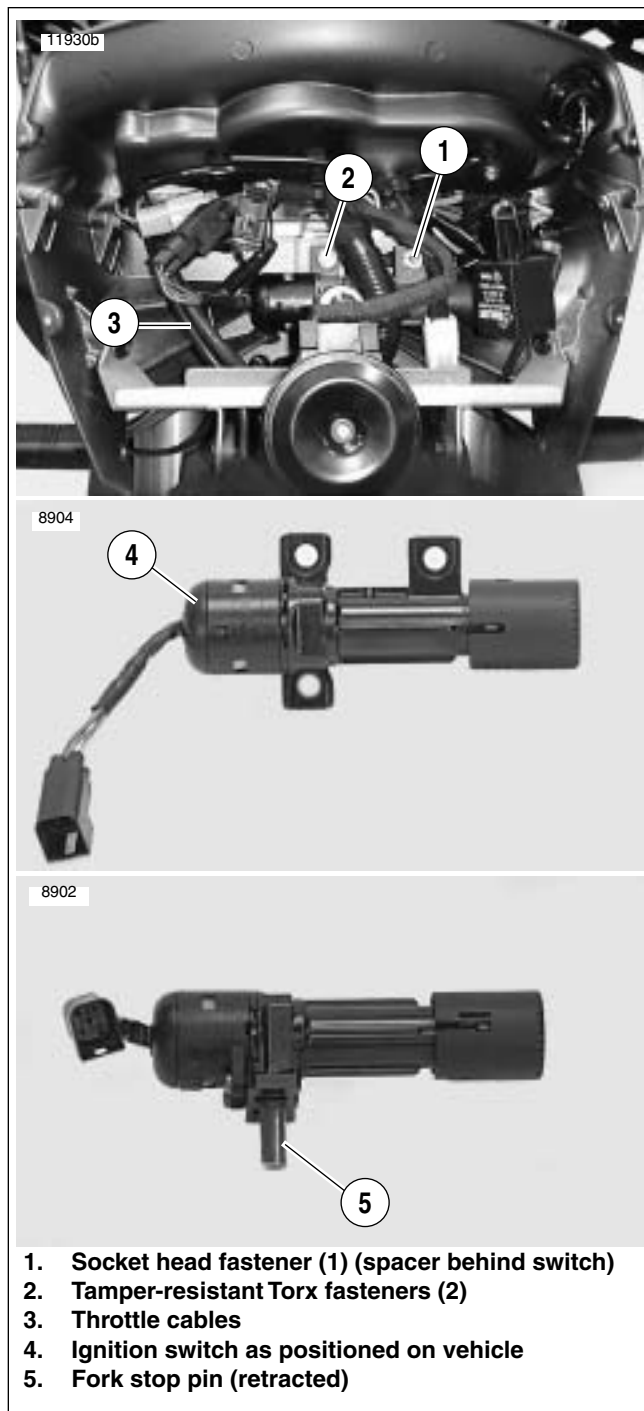
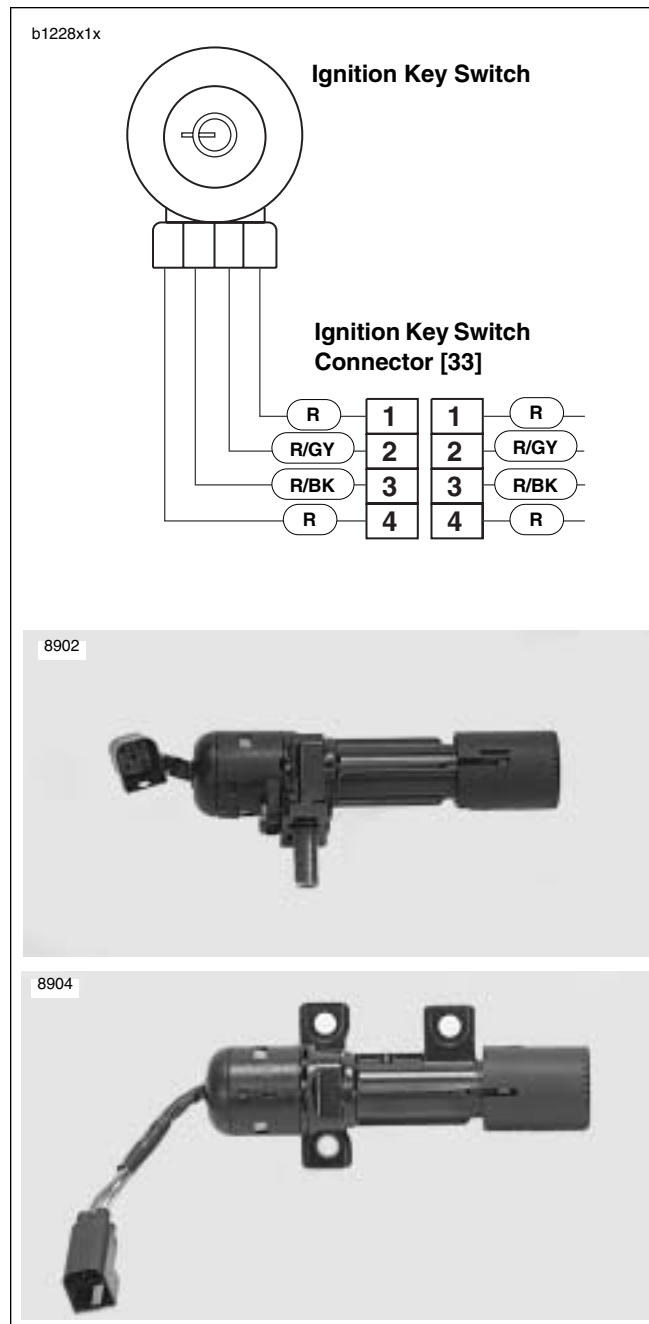

Figure 7-4. Ignition Switch (Typical)
Figure 7-7. Ignition Key Switch Wiring
7. See Figure 7-4. Use Snap-on Tamper-Resistant T45 Torx driver (Part No. FTXR45E) to remove the two tamper-resistant Torx fasteners (2) securing ignition switch to upper fork clamp.
8. Remove the final ignition switch fastener (1) along with spacer located behind the ignition switch.
9. While holding the throttle cables (3) to your left (the right side of the vehicle), pull the ignition switch (4) toward you and roll the assembly away from you until the fork stop pin (5) is pointing down.
1. See Figure 7-4. While holding the throttle cables (3) to your left (the right side of the vehicle), slide the ignition switch assembly in to your right (the left side of the vehicle).
2. Install the ignition switch (4) with the fork stop pin (5) pointing down and, once in place, roll the assembly toward you and insert the fork stop pin into the upper triple clamp.
4. See Figure 7-7. Connect ignition switch connector [33] to wiring harness.